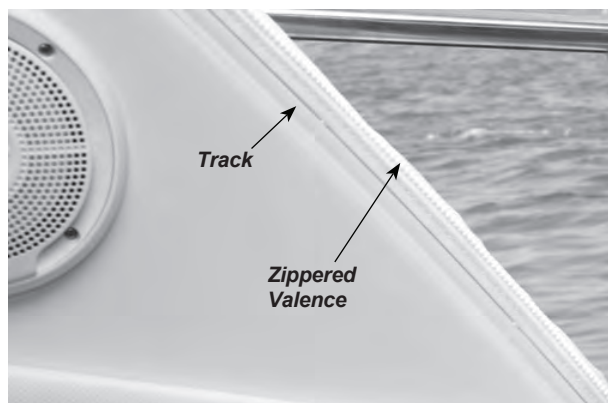

Figure O7: Side Curtain Valance
- 2) Valances, small areas of canvas curtain, are used to attach the side curtains to the boat. The valances slide through a track mounted on the hard top. The side curtains are then attached to the valances using zippers. See Figure O7.